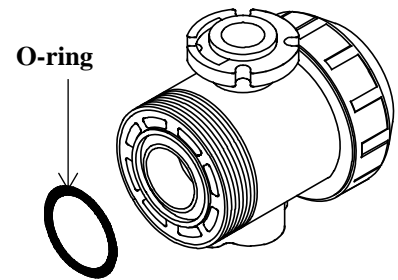

Figure 5.1-3
- 7-1) Confirm that the O-ring (A) is correctly installed on the body. (Figure 5.1-3)
- 7-2) Bring the end connector and union nut into contact with the body side so that the O-ring (A) does not come off.